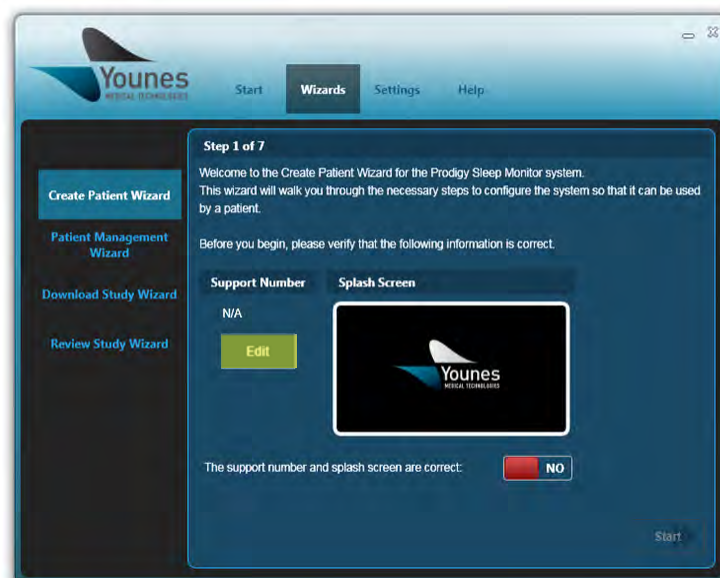

Figure 109 – Windows PC Prodigy Application Screen With “Edit” Button Highlighted (Create Patient Wizard)
7. Read the information on the screen. To load a support number onto the device and/or recalibrate the screen, click the “Edit” button highlighted in Figure 109.